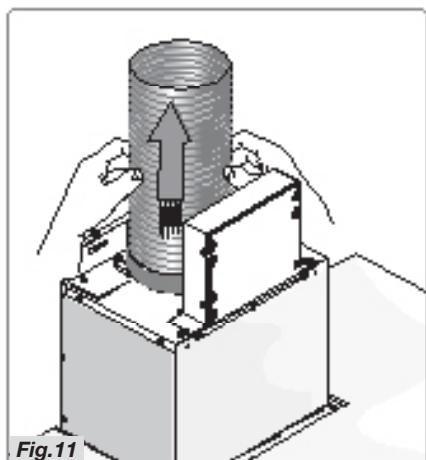

Fig.11
- Connect the flange to the air evacuation hole with a flexible pipe (Fig.11).